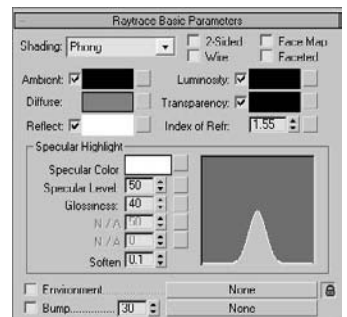

Figure 11.38
3. The parameters to create reflections are available through the Raytrace Basic Parameters rollout, as shown in Figure 11.38. Leave most of these parameters at their default values, but change the Reflect color swatch to white from black. This will set the reflection of the material all the way to the maximum reflectivity.